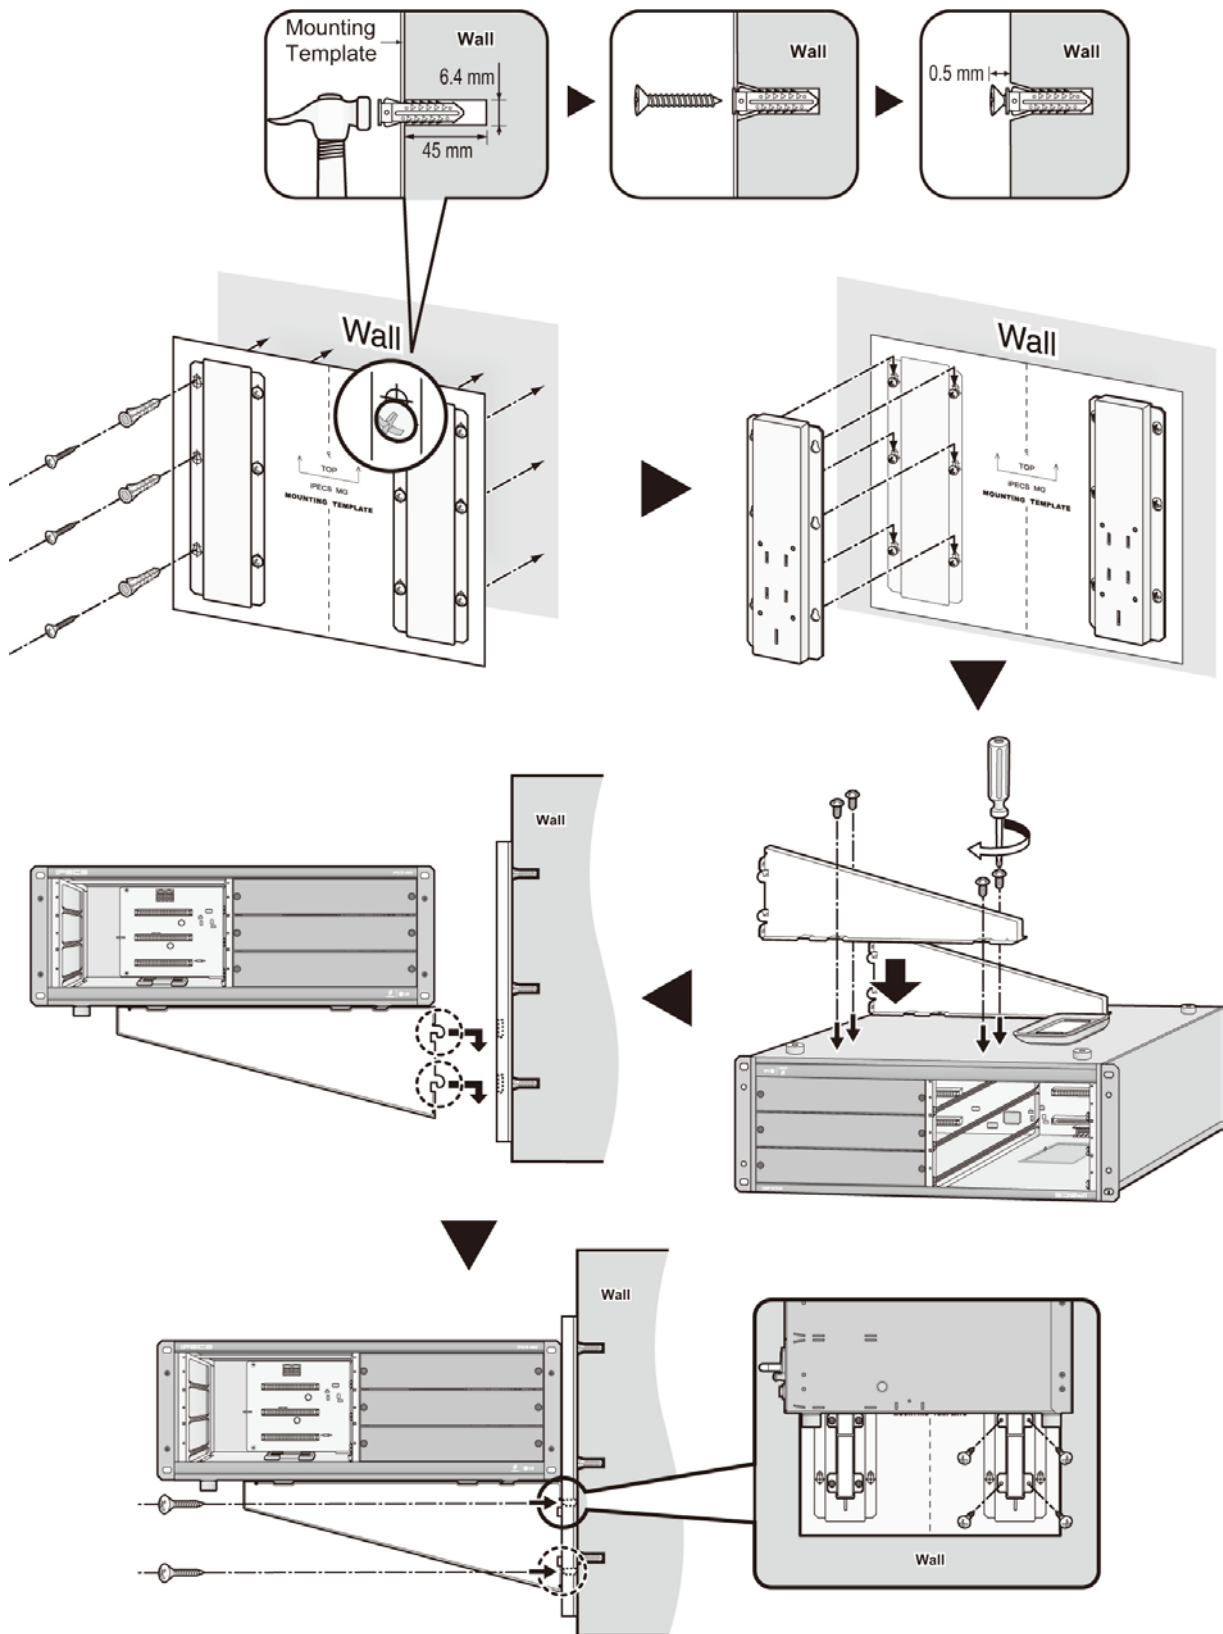

Figure 3.4.2-1 Wall Mounting
2. Install 12 anchor plugs into the wall using the mounting template (Figure 3.4.2 1 Wall Mounting).
6. Install the Rack Mount brackets to each side of the KSU with the eight (8) screws provided.
7. Attach the Wall Shelf brackets to the bottom of KSU and affix using the eight (8) screws provided.
9. Affix the Wall Shelf brackets to the Wall Bracket using the four (4) screws provided.